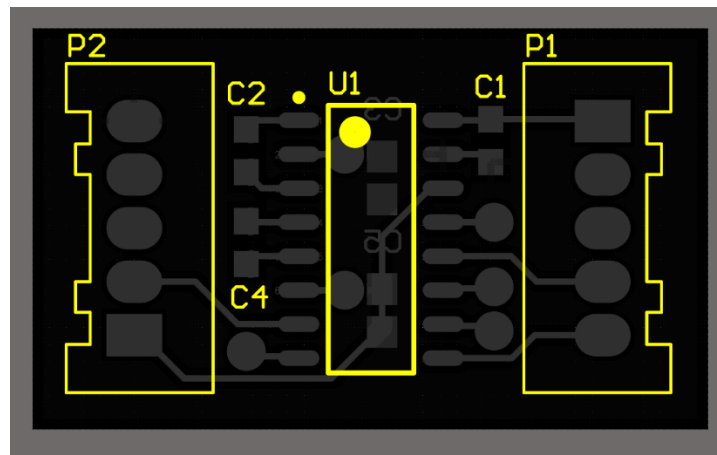

Figure 21: Final View of Top Overlay
27. Organize your “Top Overlay” labels as shown in Figure 21.